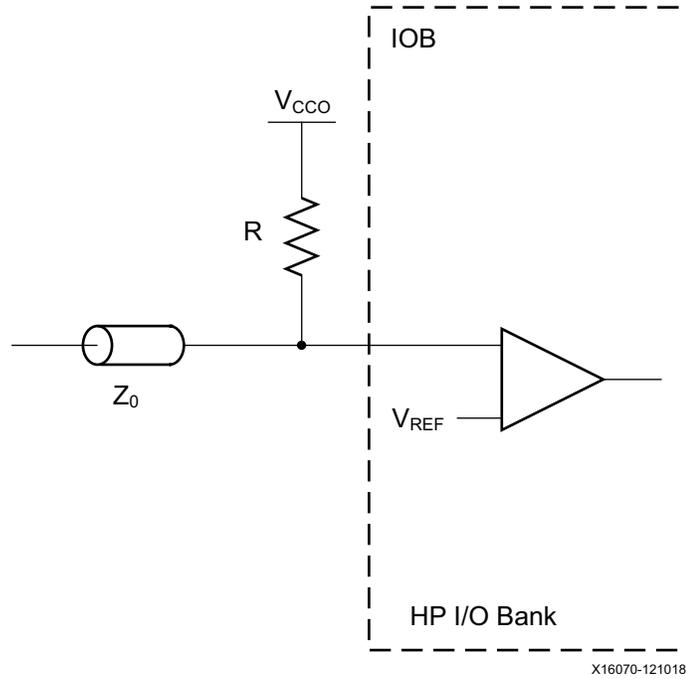

Figure 1-12: Input Termination to  $V_{CC0}$  without DCI (where  $R = Z_0$ )
Some I/O standards (POD10, POD12, HSUL\_12, and DIFF\_HSUL\_12) require an input termination resistance (R) to a  $V_{TT}$  voltage of  $V_{CC0}$  (see Figure 1-12).